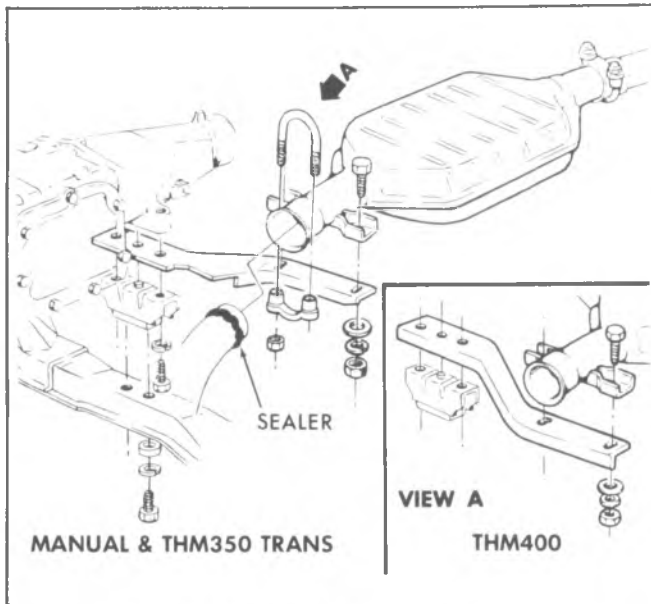

Fig. 6F-2--Catalytic Converter - C10 Series
4. Clamp on vibrator and catalyst container (Fig. 6F-7). Use adapter J-25077-6 if converter was built with pressed plug.